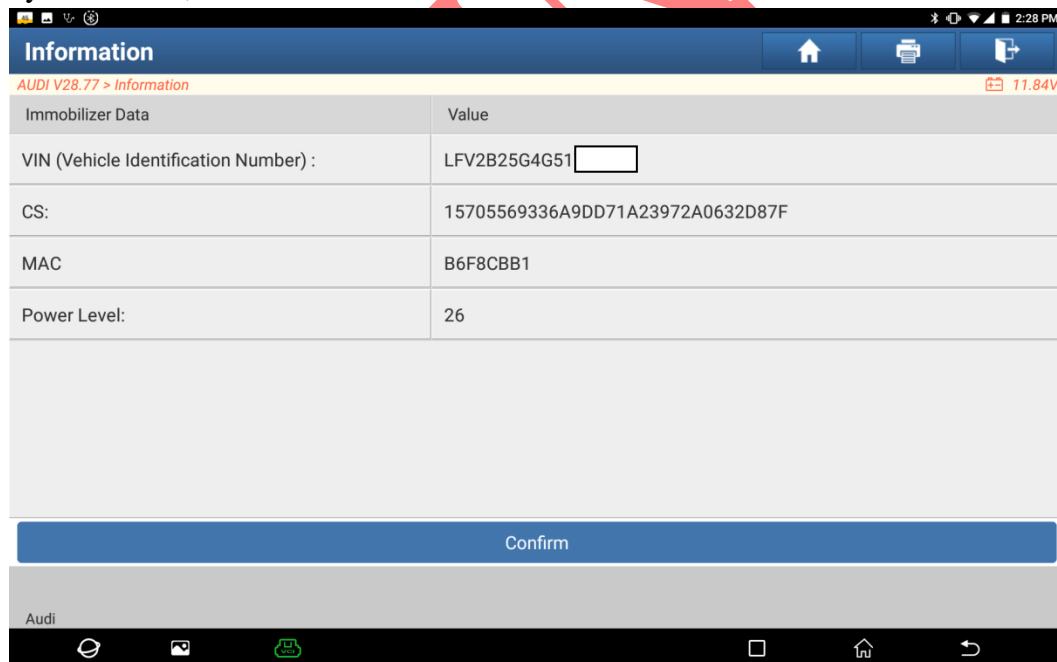

Figure 9
8. The external engine ECU Anti-theft data is shown in Figure 9, which can be saved by screenshot;